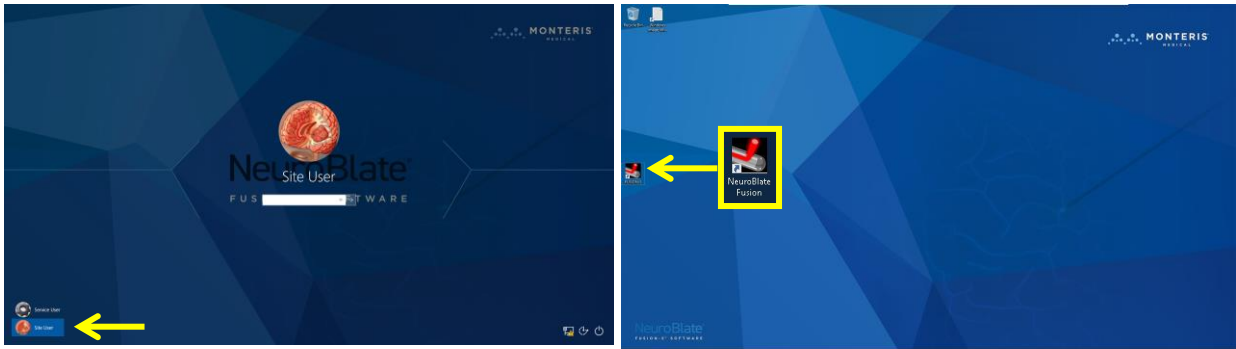

Figure 7.4.1: Boot Up Display (left) and Desktop Display (right)
The LCD monitor in the Control Workstation will display the boot up sequence after system power-on. When completed, the login display will appear (Figure 7.4.1 left).
- Click the icon labeled *Site User* (yellow arrow Figure 7.4.1 left)
- Double-click the *NeuroBlate Fusion* icon to launch the software application (Figure 7.4.1 right)